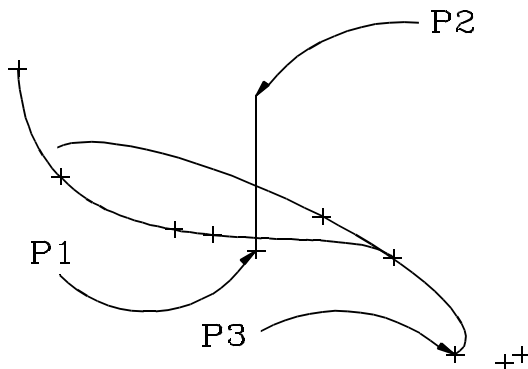

Figure 7:
13. In the isometric view, click on points P1 (the base of the blue line), P2 (the top of the blue line), and P3 (the blue point at the start of the ellipse), as shown in Figure 7.